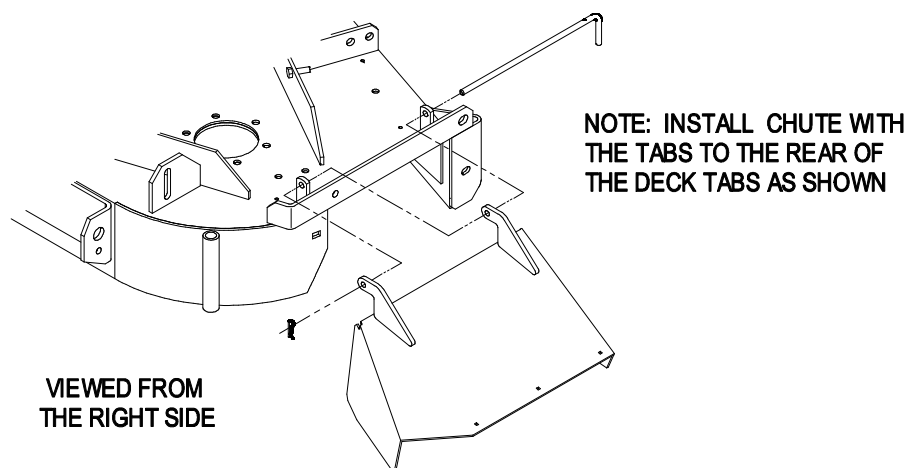

FIGURE 5
- o) Install the new discharge chute (Item 20) using the chute pivot pin (Item 18) and hairpin (Item 19) provided as shown in Figure 5.